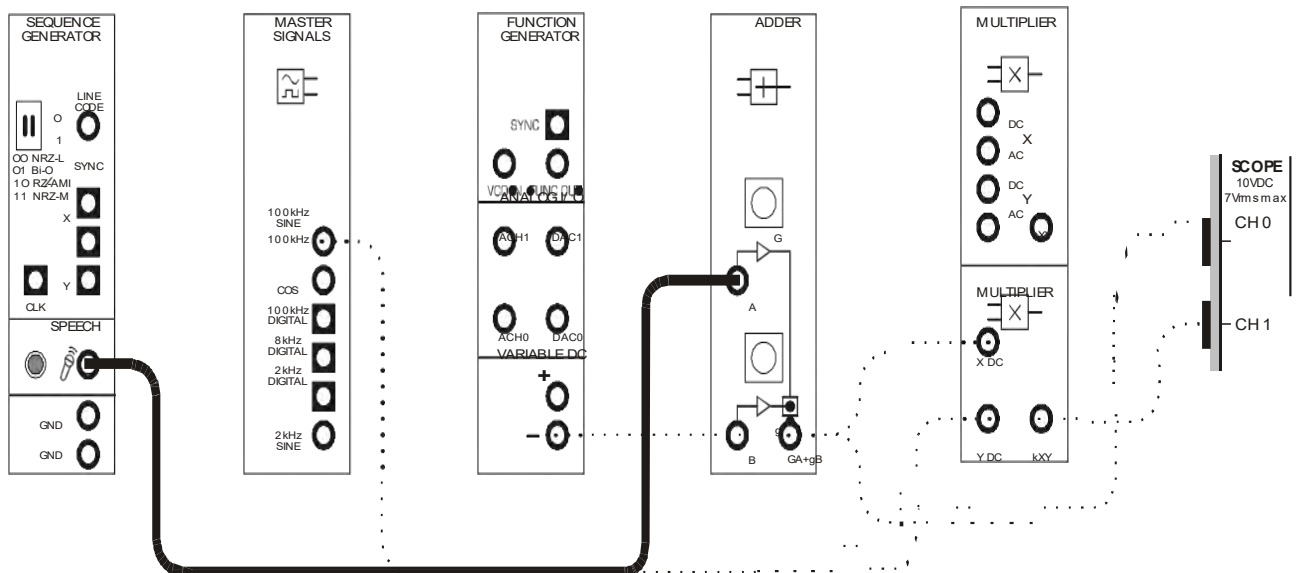

Figure 8
27. Connect it to the Speech module's output as shown in Figure 8 below.